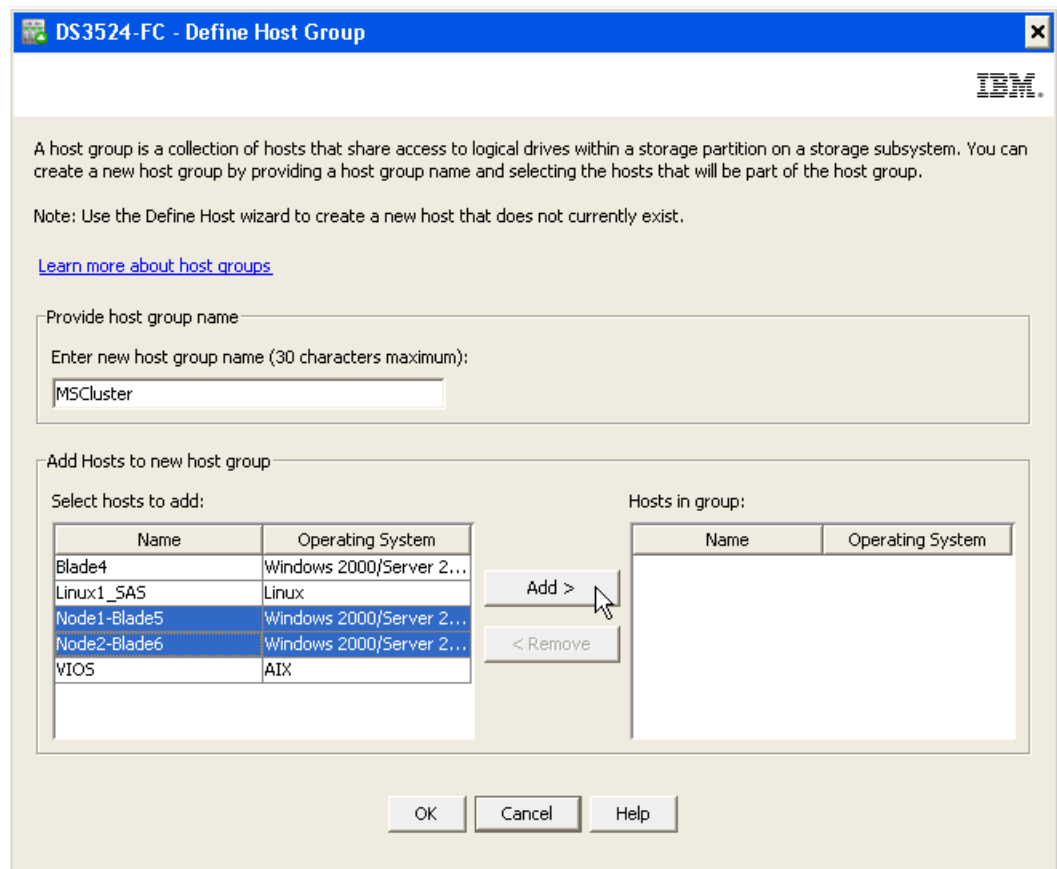

Figure 19-4 Add Hosts to the Host Group
5. Add the defined hosts to the host group to share the storage resources between the hosts and for failover as shown in Figure 19-4 on page 560